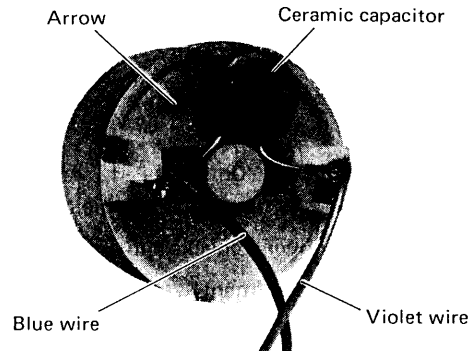

Fig. 2-10 Mode control motor wiring
2. Take out two screws (15) and remove the drive gear assembly.
4. Take out two screws (16) to remove the mode control motor.
5. Take out E-ring (17) and pull out the gear shaft to remove the wormgear pulley. Use care regarding the two washers.
7. Replace the mode control motor and reassemble by reversing the above steps 1 to 4. Use care regarding the motor wire polarity (see Fig. 2-10).